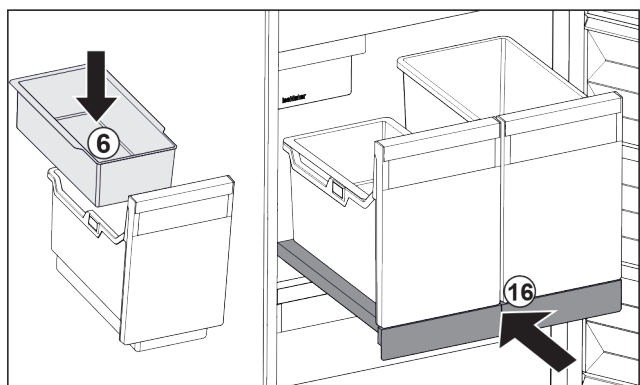

Fig. 40
- ▶ Insert hang-on tray *Fig. 40 (6)* for ice cubes.
- ▶ Slide in the pull-out board with (IceTower) container. *Fig. 40 (16)*